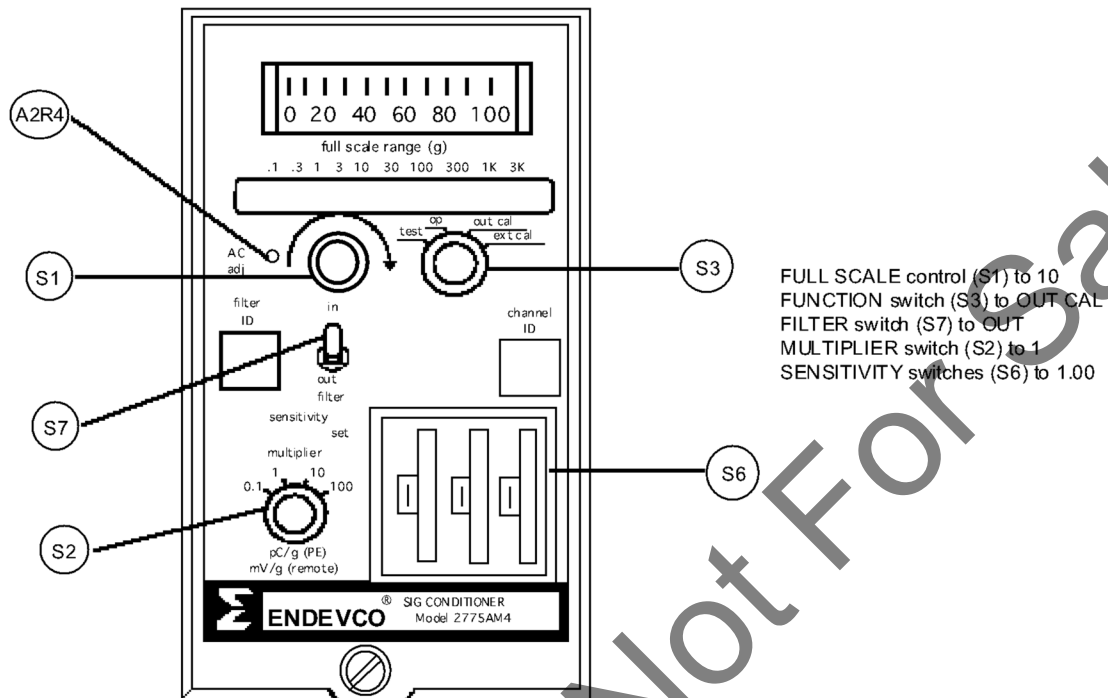

FIGURE 3-2: FRONT PANEL CONTROLS
On the back panel, set the MODE switch (S5) to PE. On the front panel, from top to bottom, left to right, set the following controls as indicated (Figure 3-2).
Set the FUNCTION switch (S3) to OUT CAL. Monitor AC OUTPUT (J12) with a Frequency Counter and an oscilloscope and verify that the internal oscillator sine wave is between 950 and 1050 Hz (Figure 3-2).
- A. Establish a desired full scale AC output voltage. This voltage is adjustable from 1 to 10 V pk by means of the AC ADJ potentiometer (See Figure 3-2.) It is normally set at the factory for a full scale output of 10 volts peak unless specified otherwise.
The full scale AC output voltage will depend on the setting of the AC ADJ potentiometer (Figure 3-2), and is adjustable from 1 to 10 volts peak. It is normally set at the factory for 10 volts peak except when specified otherwise. The AC output is capable of delivering up to 85mA pk, which is sufficient to drive most high frequency galvanometers or long cables.